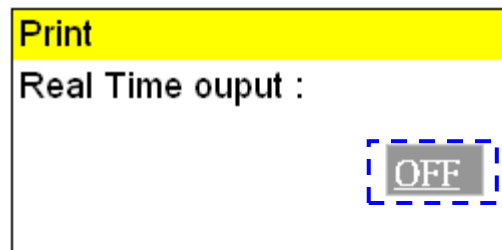

Figure 118
- C. Press  or  button to enable or disable the real time printout, and press  button to store the parameter in Figure 118.